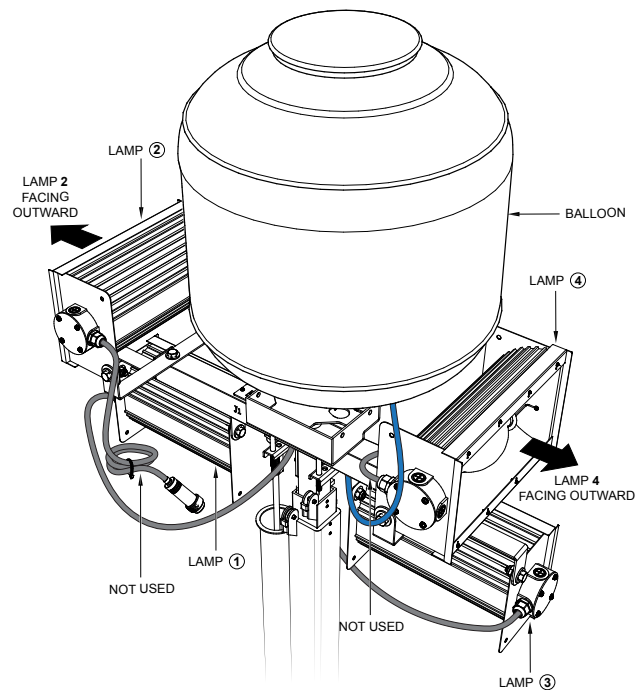

Figure 30. Balloon Deployed (Typical Application)
7. Raise the light tower mast (Figure 30) to the desired upright height.